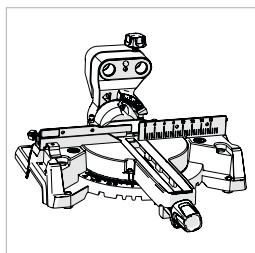

Fig. 3
- The rotary base and bevel neck (**Fig. 3**)